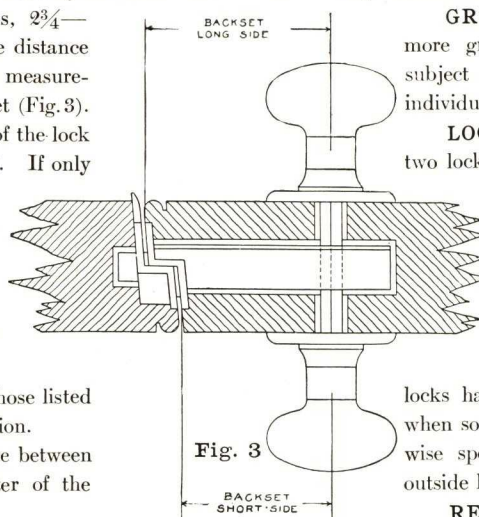

Fig. 3
**RABBETED FRONT LOCKS**—Locks having depth of rabbet other than regularly listed will be furnished to order at additional cost. When ordering special depths of rabbet send full-size detail of door stiles at the point where the lock and strike meet. (Fig. 3.)
**RABBETED FRONT LOCKS**—In this catalog both the short and long side measurements are given; thus,  $2\frac{3}{4}$ — $3\frac{1}{4}$  inches: the first measurement being the distance on the short side and the second the long side measurement, thereby indicating the depth of rabbet (Fig. 3). When ordering special backsets, the number of the lock and the backsets wanted should be specified. If only one distance of backset is mentioned it will be interpreted as meaning the distance on the short side and that the regular depth of rabbet furnished with the lock specified is required.